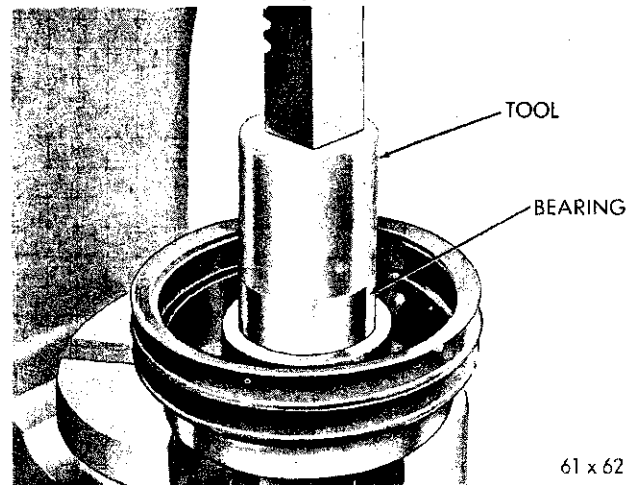

Fig. 34—Installing a New Bearing in the Pulley Assembly
(1) Install the pulley assembly with the pulley side up on an arbor press and insert a new bearing into the bore. Install the Tool C-3807 against the bearing and press into position.
(2) Install the pulley assembly with pulley side facing down on Tool C-3807.
(3) Start the drive hub into the inner bearing race, and press the hub into position with an arbor press. (See Fig. 34).